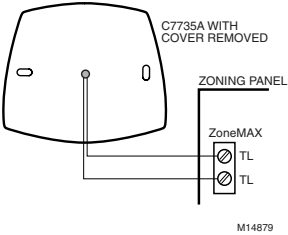

Fig. 3. DATS wiring to TZ-3 panel.
- 6. Connect the two DATS wires, using the wire nuts supplied, to wires that connect to the TL and TL terminals on the TZ-3, MABS EZ-2, MABS EZ-4 or to the ZMS and ZMS terminals on the EMM series panels, through the wiring hole in the DATS case. See Fig. 3.